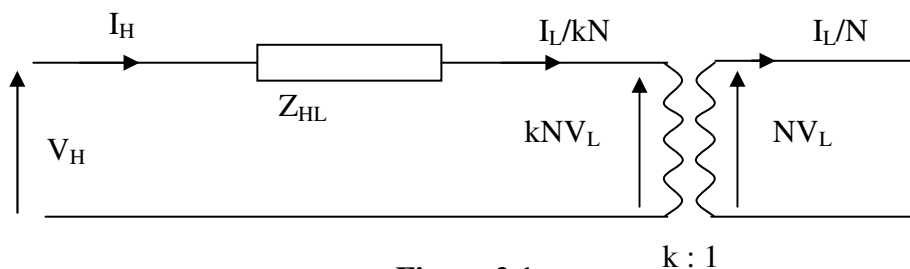

Figure 2.1
- c. If the transmission line using the stranded conductors (see part b(ii)) supplies a 33kV, 900kW load at 0.9 power factor lagging, calculate the voltage at the sending end of the line. The resistance of the conductor is  $0.04\Omega/\text{km}$ . (4)
- d. Explain briefly why it is necessary to use bundled conductors on high voltage lines. (2)
- a. (i) Describe why electrical power systems require protection. (1)
- (ii) Draw a diagram showing the key components of a simple protection system and briefly describe their function. (3)
- b. Describe a type of protection relay which may be used to detect faults in an oil-filled transformer and explain its operation. (3)
- c. Explain why tap changing transformers are used in a power system and describe the difference between an off-load and on-load tap changing transformer with relevance to a power distribution transformer. (2)
- d. Figures 2.1 and 2.2 show a per-phase circuit of a tap-changer transformer and an equivalent 'π' network respectively. By consideration of the no-load voltage transformation ratios and short circuit impedances, show that the parameters A, B and C may be represented as:
- $$A = \frac{Z_{HL}}{(1-k)} \quad B = \frac{Z_{HL}}{k(k-1)} \quad C = \frac{Z_{HL}}{k} \quad (4)$$
- e. A 100MVA 132kV/66kV, star/delta transformer, with the star point solidly earthed, has a nominal tap impedance ( $Z_{HL\_NOM}$ ) of j0.08 pu. The tap changer is assumed to be on the 132kV winding. Draw the equivalent circuits for the nominal tap and the +10% tap setting. (Assume the impedances  $Z_H$  and  $Z_L$  are proportional to the square of the number of turns on the winding concerned). (4)
- f. A 3-phase symmetrical fault occurs on the low voltage side of the transformer when it is operating on the +10% tap setting. Calculate the fault current on the high voltage side of the transformer if the fault level on the high voltage side is 1000MVA. (3)